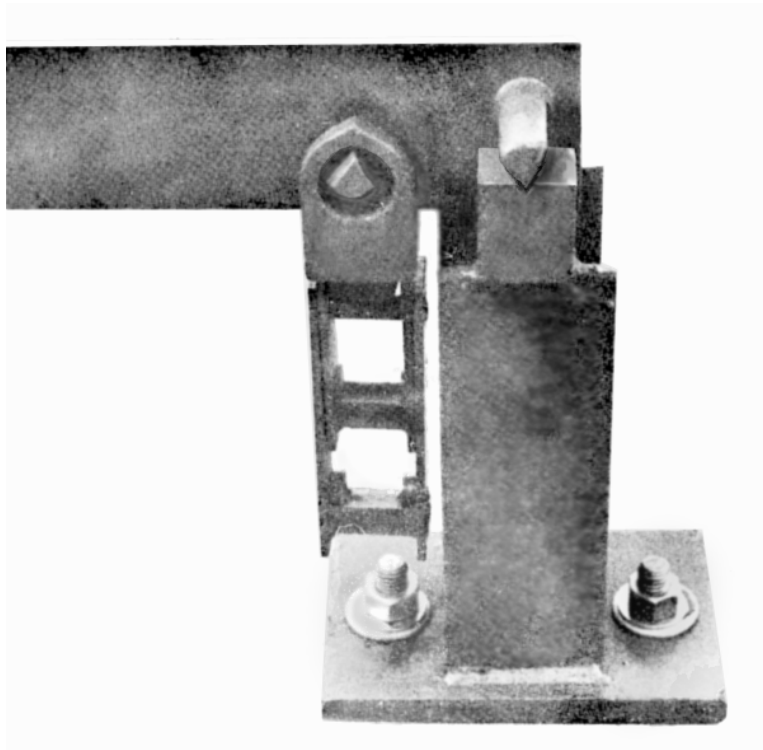
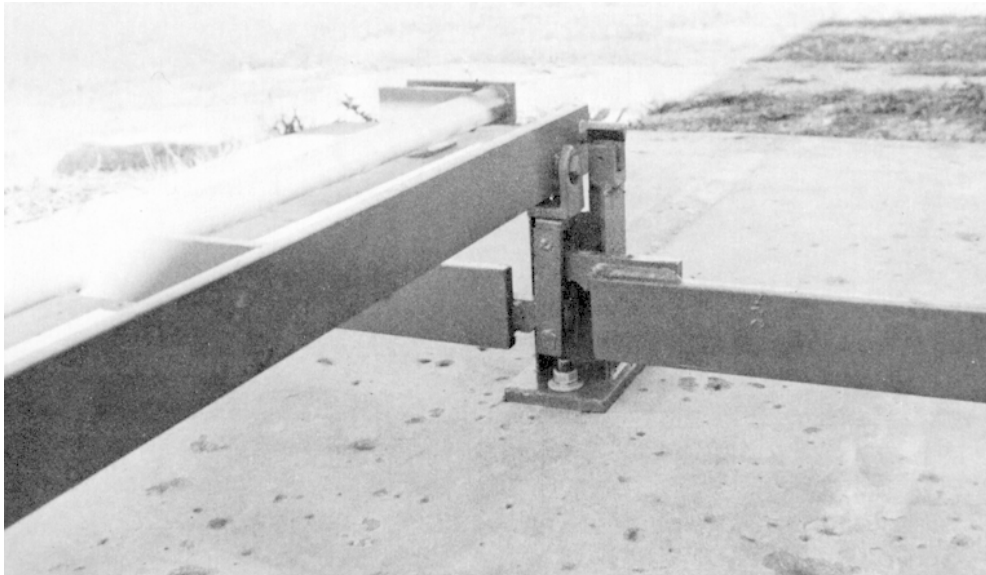

Figure 53. Transverse Lever Installation
Figure 54. Transverse Lever Installation
9. Install the Right and Left Main Levers with their Fulcrum Pivots on the Bearings of the Lower Main Stands. The Main Lever's Tip Pivots rest directly above each other in the Shackle. (See **Figure 53** and **Figure 54**).